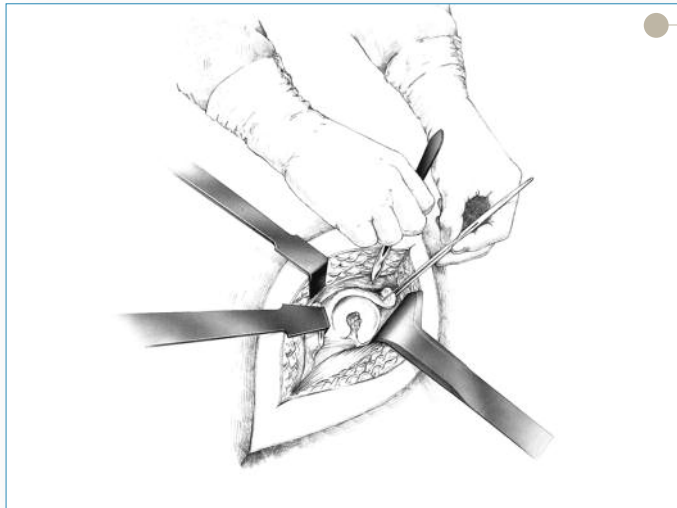

Figure 1
- Stryker Orthopaedics' Femoral and Wing Retractors can be utilized to gain acetabular exposure (**Figure 1**). With the acetabulum exposed, bony defects can be identified. If necessary, bone grafting options may be considered prior to reaming.